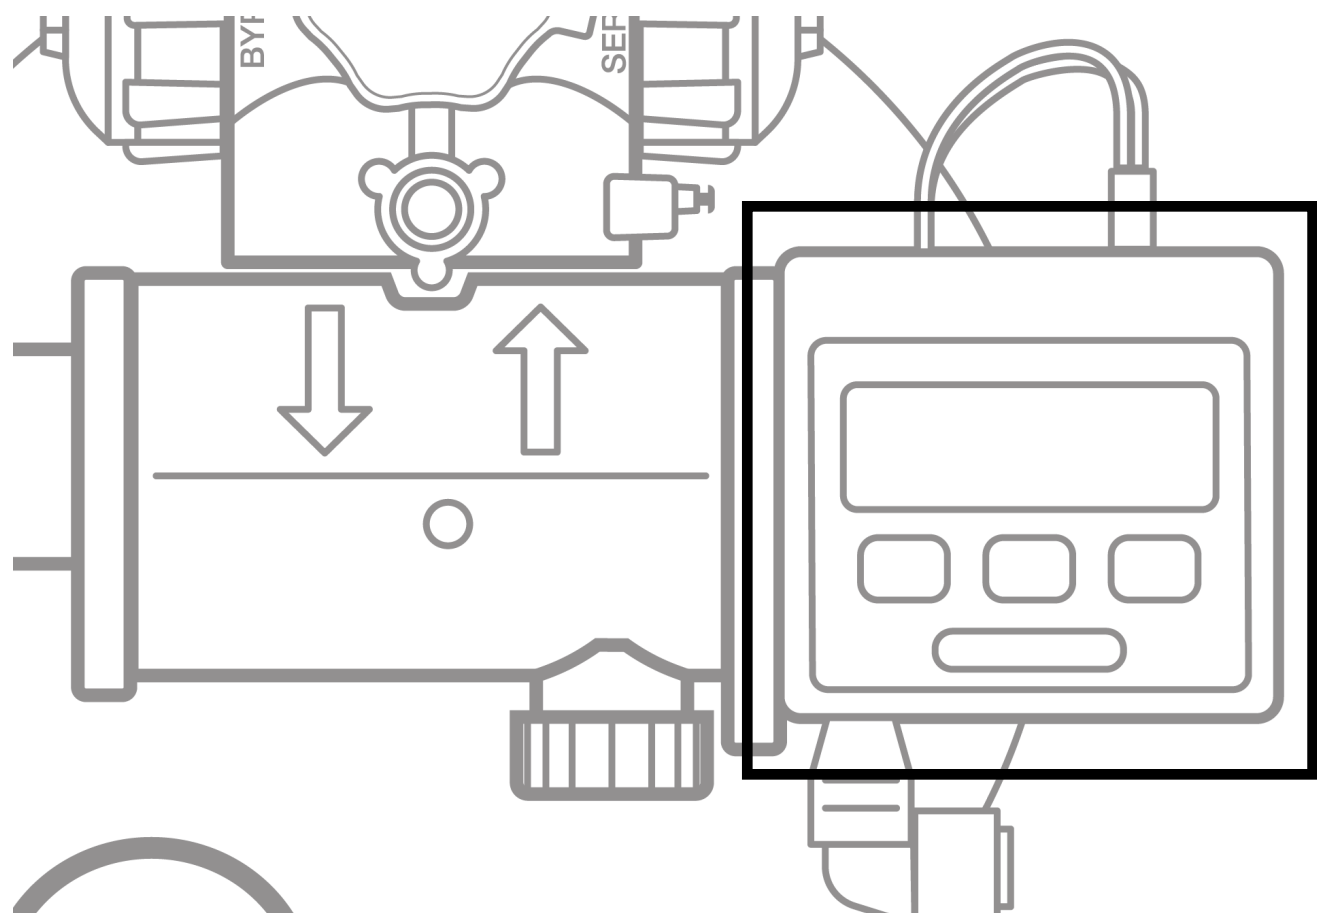

Figure 7: Connect Power Cord
- 1. Connect the transformer power cord to the back of the controller. (See Figure 7)